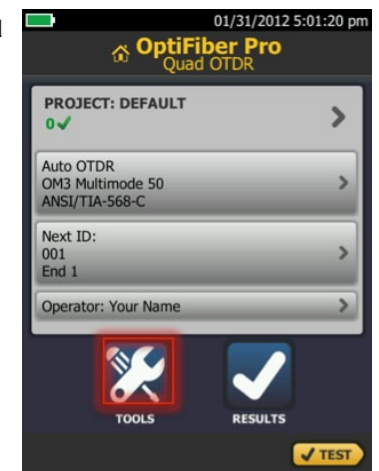

Figure 23 – Main Menu - Tools Option
- Turn ON the OptiFiber Pro. You will see the Home screen, select Tools (see figure 23)